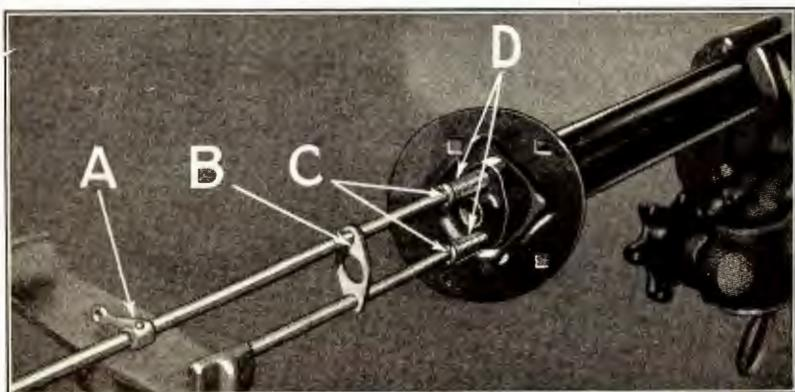

Fig. 389
- 751** Remove throttle rod lever by driving out throttle rod lever pin, (See "A" Fig. 389) and slipping lever off over end of rod.
- 762 Insert the two lead and throttle rod springs over ends of lead and throttle rods positioning springs against end of tubing as shown at "D" Fig. 389. Insert lead and throttle rod collars over ends of rods and position them against springs.
- 763 Compress collars and springs until lead and throttle rod pins can be inserted through rods (See "C" Fig. 389).
- 764** Position lead and throttle rod guide on rods as shown at "B" Fig. 389.
- 765** Insert throttle rod lever on throttle rod. Line up pin hole in lever with pin hole in rod and insert pin through lever and rod; the ends of the pin are then riveted (See "A" Fig. 389).